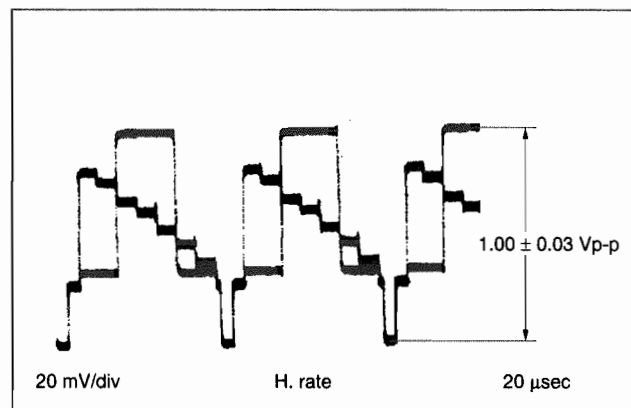

Fig. 3-3-6 PB Y level
- (1) Connect an oscilloscope to Y OUT TERMINAL.
- (2) Set the EVR mode by pressing the "K" button of the pre-setting unit.
- (3) Set "A : 11" by twice pressing 1 button of the remote controller.
- (4) Record a colour bar signal in the S-VHS mode, and playback the recorded colour bar signal.
- (5) Adjust the CH "+" or "-" buttons for 1.00 ± 0.03 Vp-p as shown in Fig. 3-3-6.
- (6) Set the normal VCR mode by pressing the "K" button of the pre-setting unit again so adjustment data is memorized.
- (7) Repeat steps (1) to (6) in the VHS mode.